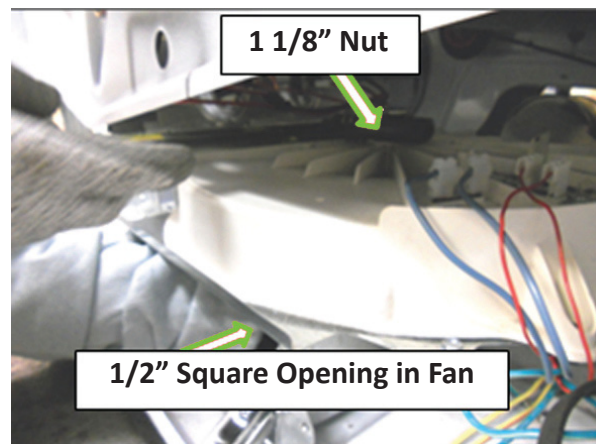

Figure 4
d.) Use a crescent wrench or 1 1/8" open end wrench on the pulley nut and a 1/2 square drive ratchet to hold the blower wheel and tighten. See figure 4.